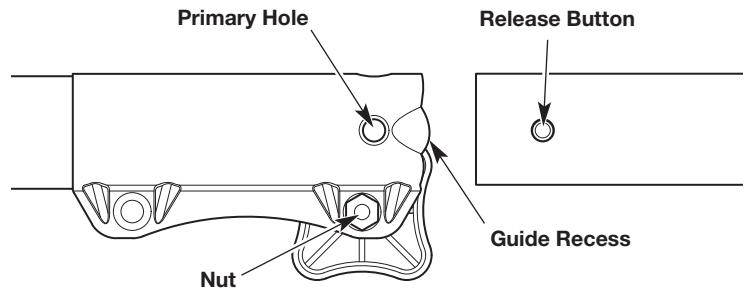

Fig. 4
4. Align the release button with the guide recess (Fig. 4).
5. Push the attachment straight into the coupler until the release button snaps firmly into the primary hole (Fig. 4).
**NOTE:** Do not tighten the nut (Fig. 4).
3. Press and hold the release button (Fig. 4).